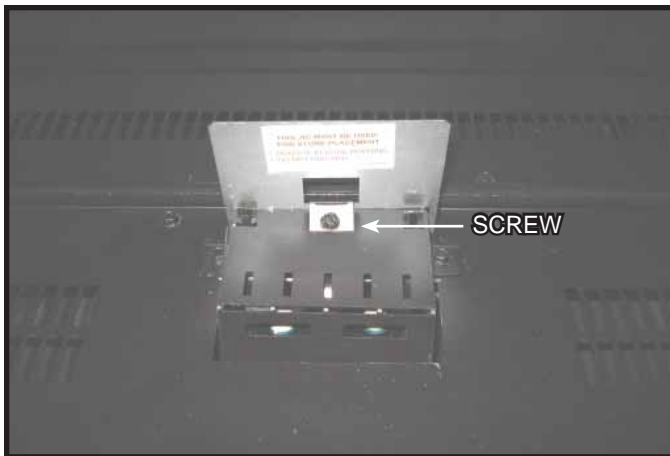

Figure 14.5. Remove Screw
- Remove the rock media placement jig by removing the screw as noted in Figure 14.5.